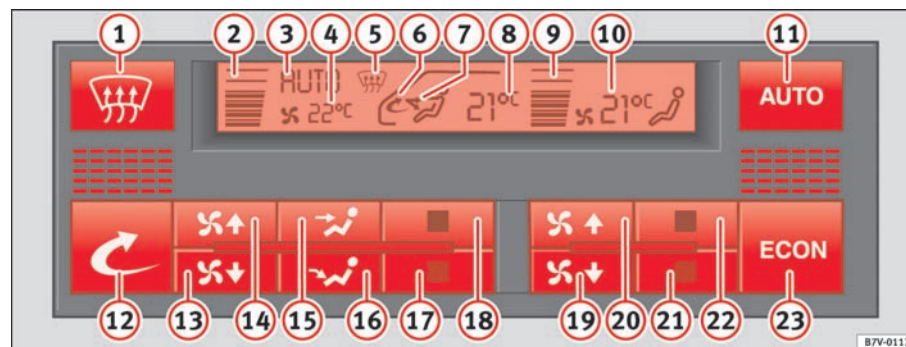

Fig. 119 Detail of the dash panel: Climatronic controls
- Press one of the air distribution buttons ⇒ fig. 119 **15** or **16** several times, or one of the temperature buttons **17** or **18**. **AUTO**
- Press the button  page 153, fig. 119  12 to switch air recirculation mode on or off. This is ON if the symbol   6 is displayed on the screen.